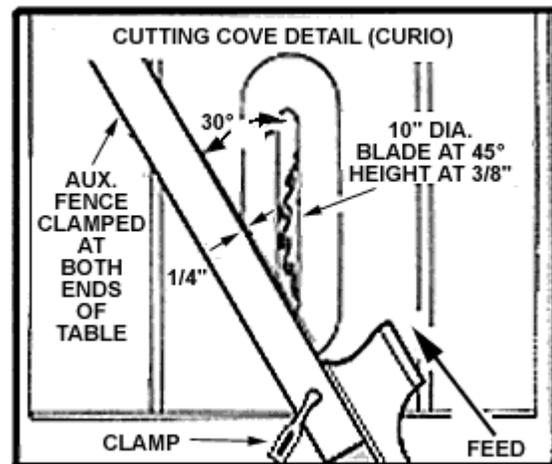

**Figure 10. Adding the Corner Blocks**
8. Add corner blocks by tucking them in flush under the cleats (see **Figure 10**).